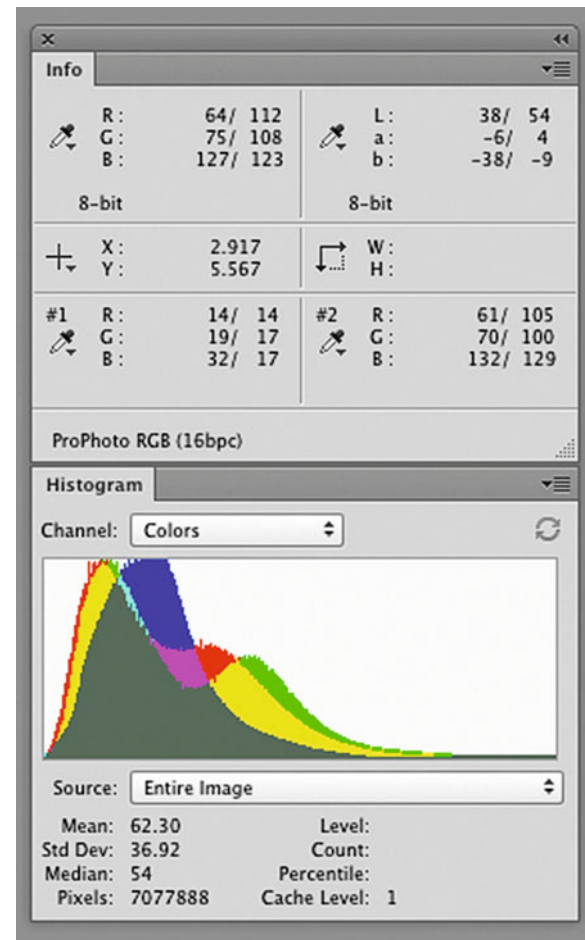

FIGURE 7.16 Info and Histogram panels in Photoshop reflecting the Levels adjustments for image in Figure 7.15.
Let's look at the effect of the RGB Levels adjustments made in Figure 7.13. The resulting image is in Figure 7.15, along with the **Histogram** and **Info Panels** in Figure 7.16. (Remember the original image is in Figure 7.10.) The **Info Panel** now shows two values, for example "R: 64/112". The first number (64) is the value before the adjustment, and the second (112) is the value after the adjustment has been made. The new black and white point made from this adjustment have made the image much less blue by increasing the red and green values; this has also made the image lighter and given it more contrast. The Info Panel values in Figure 7.16 also show that the color of the bark in tree Sample #2 is still slightly bluish even after the Levels adjustment, since the blue value is still higher than the red and green values (R-105, G-100, B-129). Although the bark is not necessarily perfectly neutral, it is still too blue.